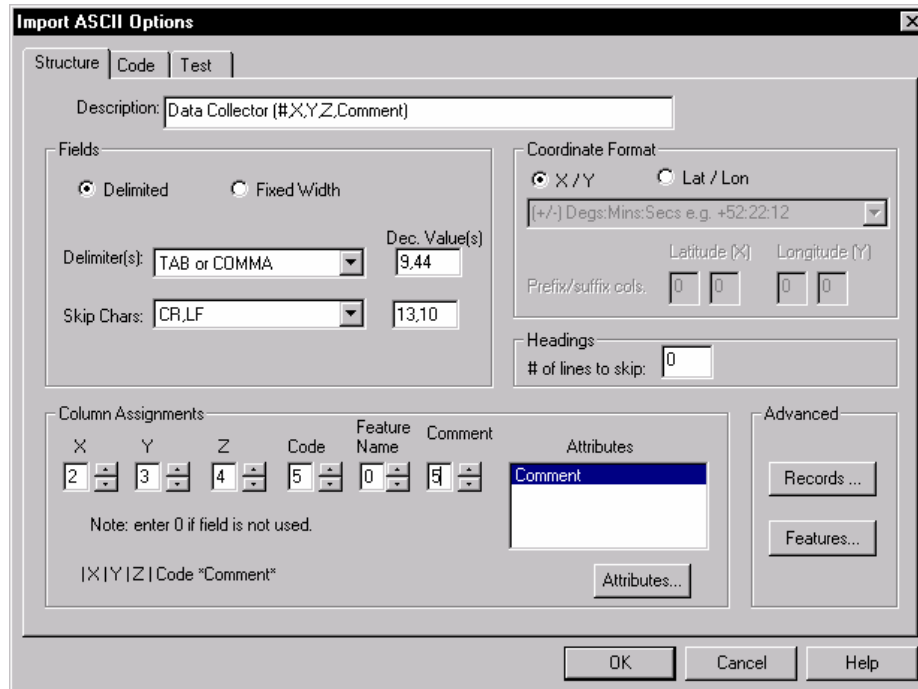

Figure 5.4: Import ASCII Options Dialog – Structure Tab
5. Click on the *Details* button to activate the *Import ASCII Options* Dialog box shown in Figure 5.4.
7. Change the entries in the dialog box to match Figure 5.4.